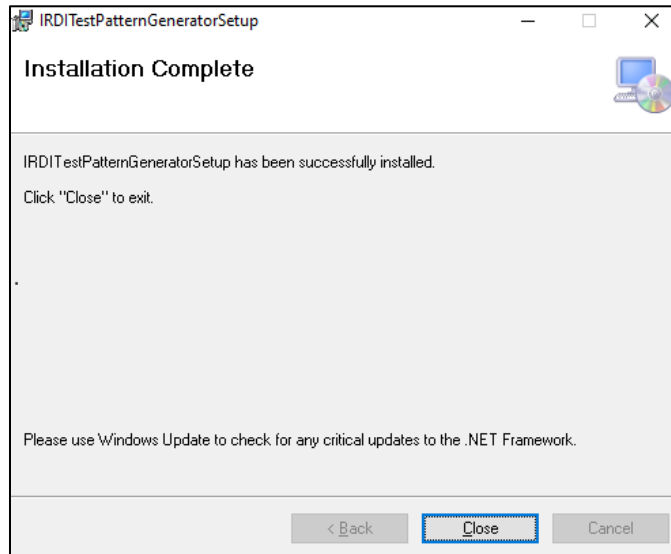

FIGURE 5-9 INSTALLATION COMPLETE
STEP 6	When the installation is complete, click on the “Close” button – see Figure 5-9.